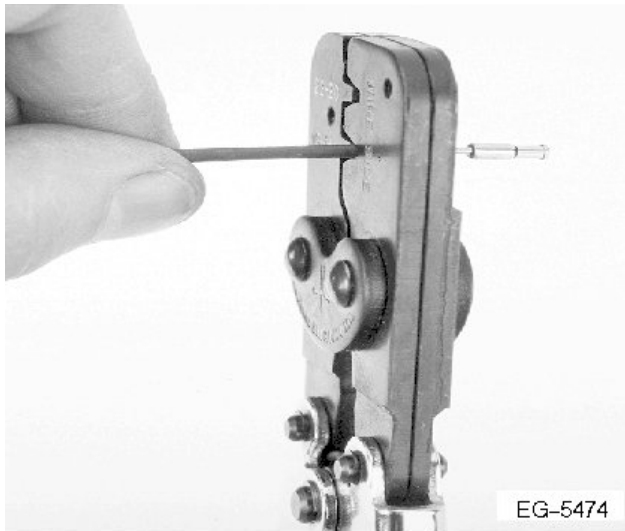

Figure 273 Terminal Over Wire
3. Hand crimp the core wings first and then the insulation wings (See Figure 273, page 442).